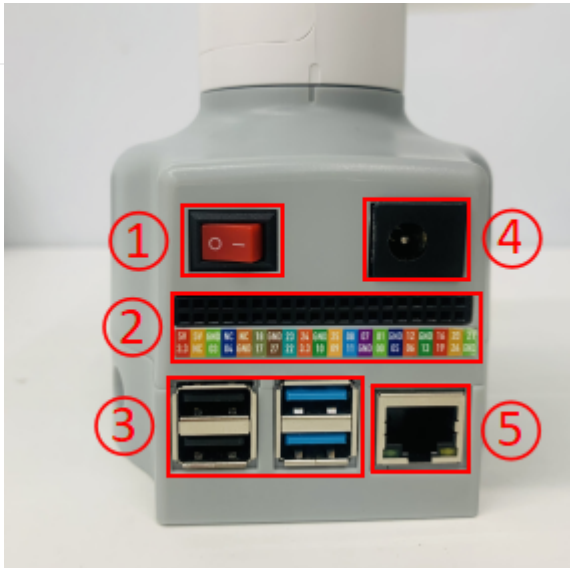

Figure 2.1.5.2-1 Front view of the base
- A. Figure 2.1.5.2-1 shows the front ports and buttons of the pedestal: